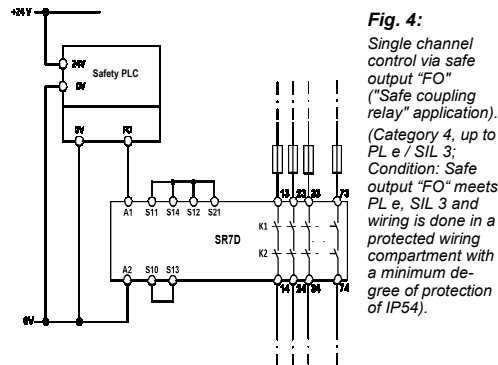
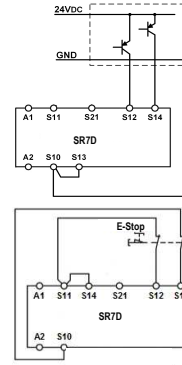
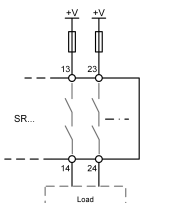

Fig. 4:
Fig. 5:
Fig. 17:
Depending on the application or the result of the risk assessment according to EN ISO 13849-1, the device must be wired as shown in Fig. 4 to Fig. 17.
- For applications according to Fig. 4 and Fig. 5 it must be ensured that the reference potential of the signal generator and the SR7D is the same.
Depending on the risk evaluation choose one of the wiring diagrams in „Applications“ (Fig. 4 to 11).